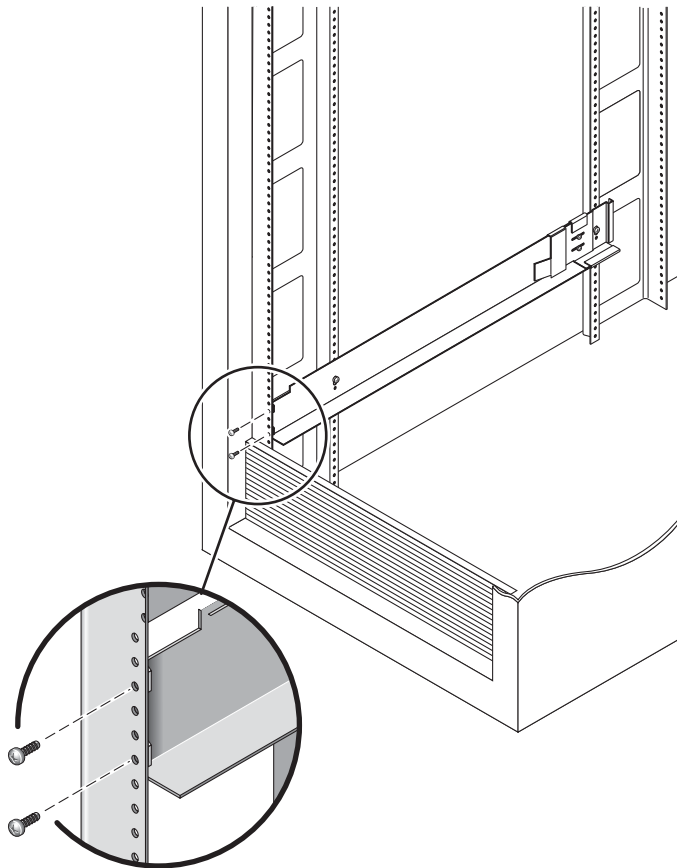

FIGURE 2-5 Securing the Left Rail to the Front of the Cabinet
- Using the No. 2 Phillips screwdriver, insert two 8-32 screws in the front of the left rail to secure the rail to the front of the cabinet (FIGURE 2-5). Repeat for the right rail.